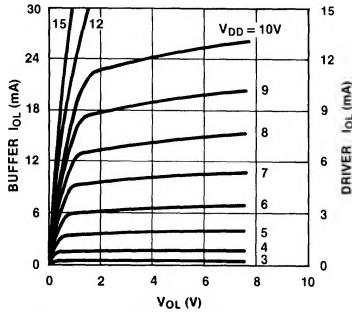

Figure 2. Minimum Output Current LOW as a Function of the Output Voltage LOW; Buffer and Driver Outputs
- **PULL-UP/PULL-DOWN** resistors (see Figure 2 for availability) may be added at various I/O stages. The values available are 5, 10, 15, 30, 60, 65, 70 and 75 Kohms.